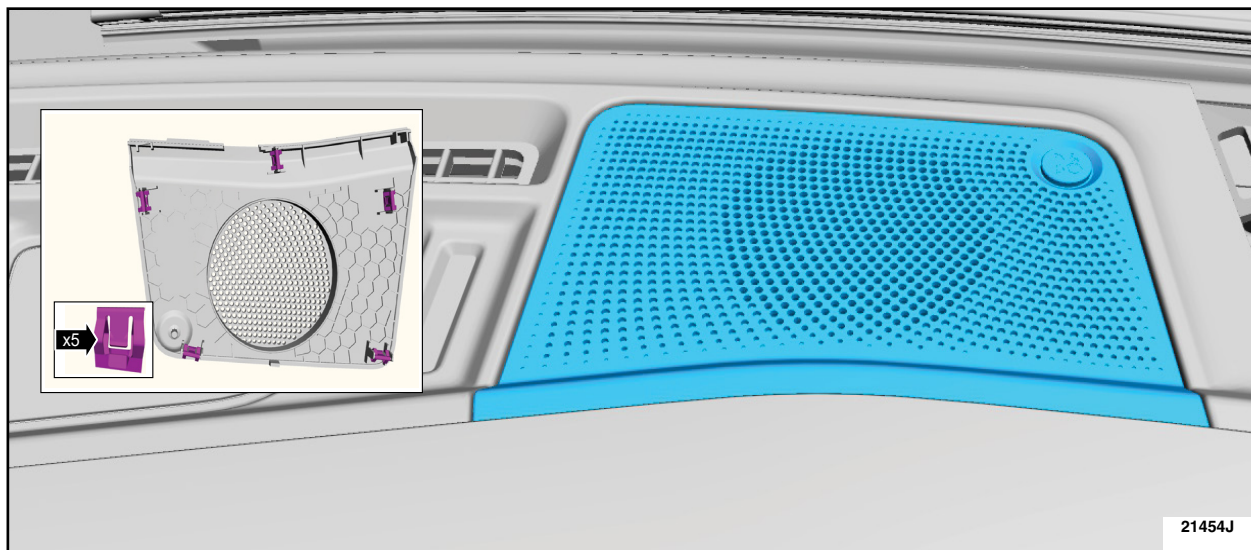

FIGURE 9
9. On both sides release the clips and remove the instrument panel speaker grilles. See Figure 9.